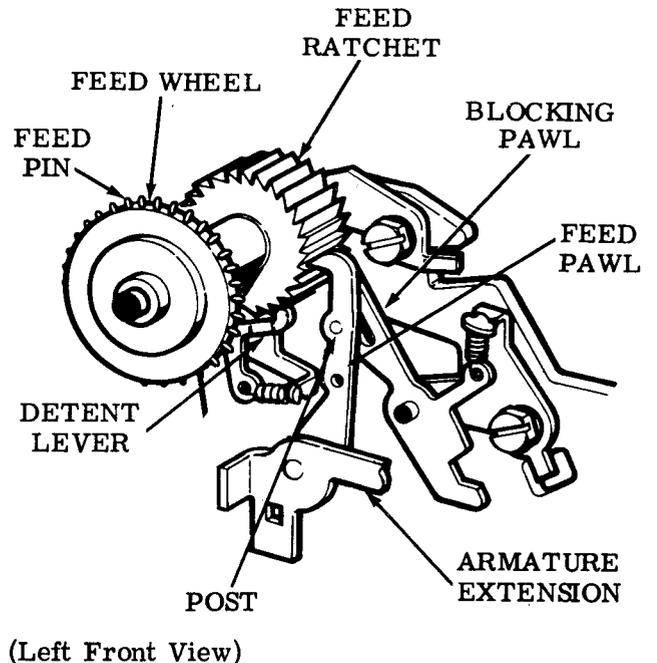

Figure 13 - Tape Feed Mechanism
3.18 Tape feeding will occur at the same time that the sensing pins are withdrawn. As the armature extensions drop down the pawl advances the feed ratchet one tooth (Figure 13). Associated with the feed ratchet are also a detent lever and a blocking pawl.
3.19 The detent lever, with its circular surface engaging the feed ratchet teeth, holds the feed ratchet and the feed wheel in their correct position during sensing (Figure 13).
heavy detent spring. It also prevents the pulling ahead of the tape, during sensing, by a tape winder, without the use of a heavy detent spring. During the upstroke of the armature extensions, the blocking pawl is rotated out of engagement with the tooth by the post on the feed pawl (Figure 13).